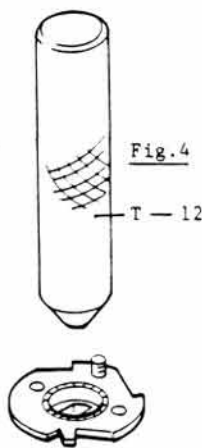

Fig. 4
2. Position TL1455K2 Start wheel assembly and TL1459 Starting pawl as shown in Fig. 3 while keeping Winding lever advancing fully. After positioning, remove Start wheel assembly and rivet Start wheel to TL1456 Hub using Tool T-12 Calking tool so as not to move as shown in Fig. 4. Narrow the hole connecting Hub of Start wheel with Shaft of Shutter curtain drum assembly using Tool T-21 Special tool, if necessary, so as to connect tightly as shown in Fig. 5. Tighten TL1457 Screw and apply a gule to it. Adjust clearance using TL1629 Washer as shown in Fig. 6 in case there is much clearance between Start wheel assembly and Shutter curtain drum assembly.